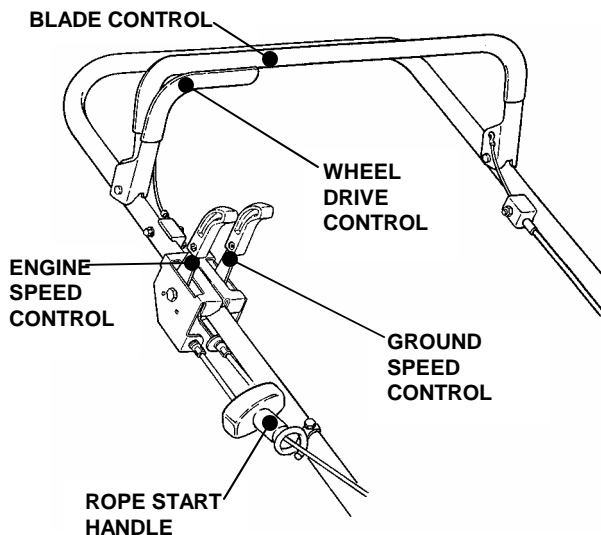

FIGURE 2.1
**2.1.2.** Check blade control and wheel drive control to insure they work freely. See Figure 2.1.